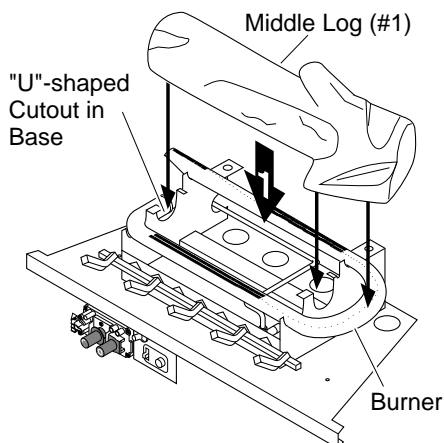

Figure 22 - Installing Middle Log (#1)
1. Place the base of the middle log (#1) in the U-shaped slots of the grate base. The cutout on the right of the middle log should fit over the burner (see Figure 22). Make sure the front of the middle log is resting on the tabs of the grate base and the cutout area is centered over the burner "U" bend.